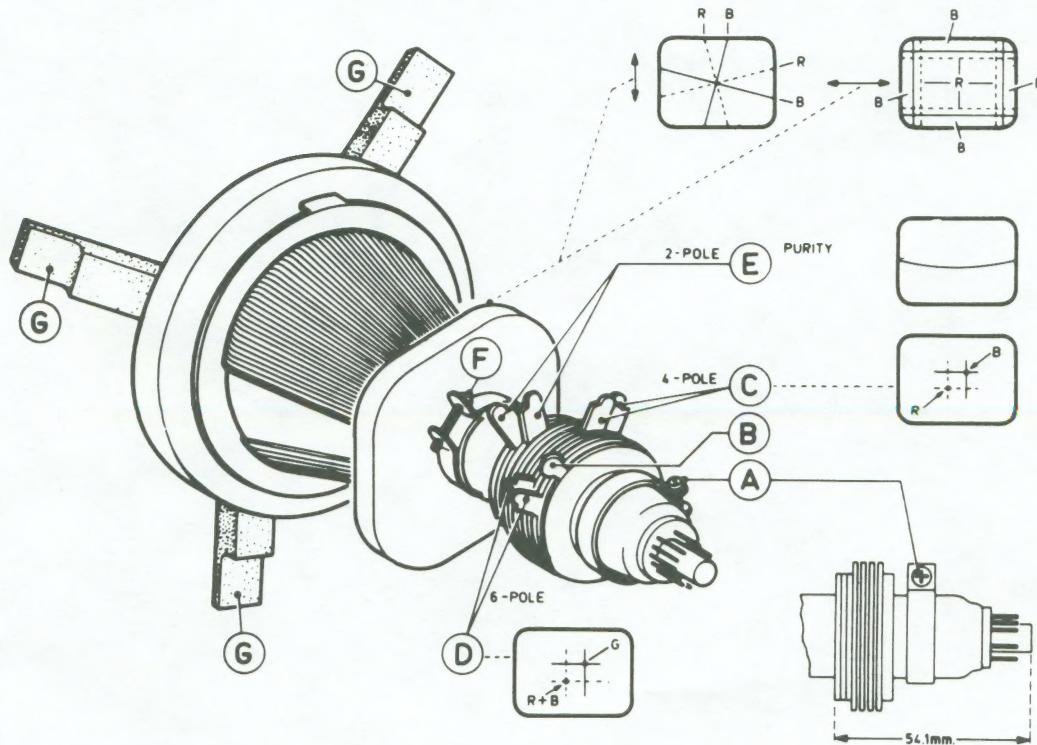

Fig. 1
## Color Purity adjustment (Refer to Figure 1)
2. Remove the rubber wedges (G) and slide the yoke forward until it rests firmly against the bell of the CRT.
4. Place the multi-pole Purity and Convergence Assembly in the position shown in Figure 1.
5. Tighten screw (A) and turn securing ring (B) counterclockwise. Position the unit so that it faces in an East/West direction and degauss the instrument.
9. Adjust the Two-pole purity rings (E) to center the red vertical and horizontal lines.
11. Turn on the green and blue guns by reconnecting R728 and R735. If a uniformly white raster does not appear, minor adjustments may be made by adjusting the purity rings (E).